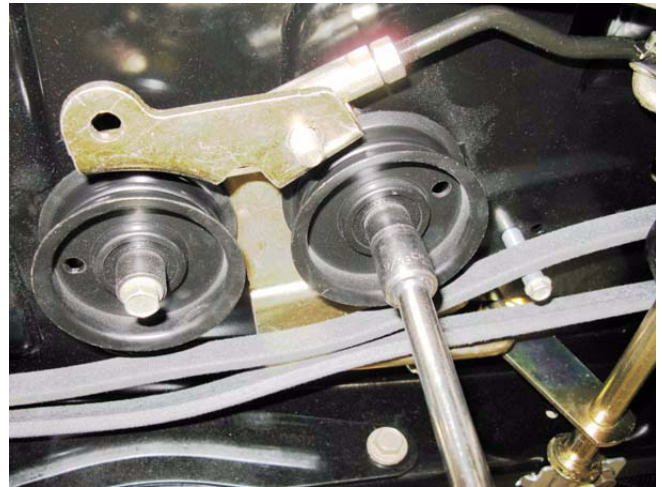

Figure 6.52
7. Remove the nut and bolt that hold the belt tensioner pulley bracket to the frame using a pair of 9/16" wrenches. See Figure 6.52.